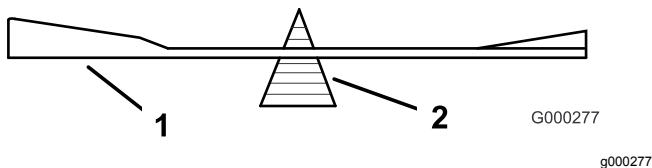

Figure 100
- Check the balance of the blade by putting it on a blade balancer (Figure 100).